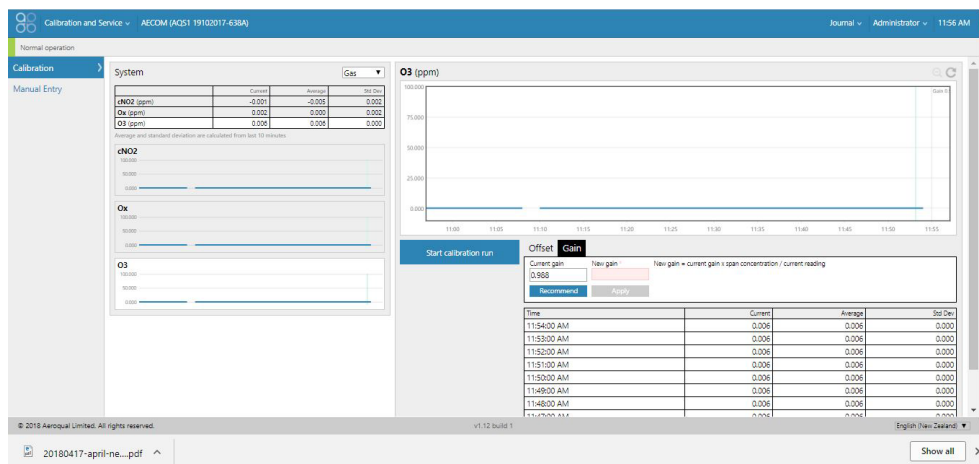

Figure 7-3 The main calibration screen is where the average and standard deviation can be read. This is also where the gain and offset can be read and set.
- You can use the calibration page “Recommend” button (Figure 7-3), this will perform the calculation, but you must accept this offset by pushing the “Apply” button, this will upload the new offset.